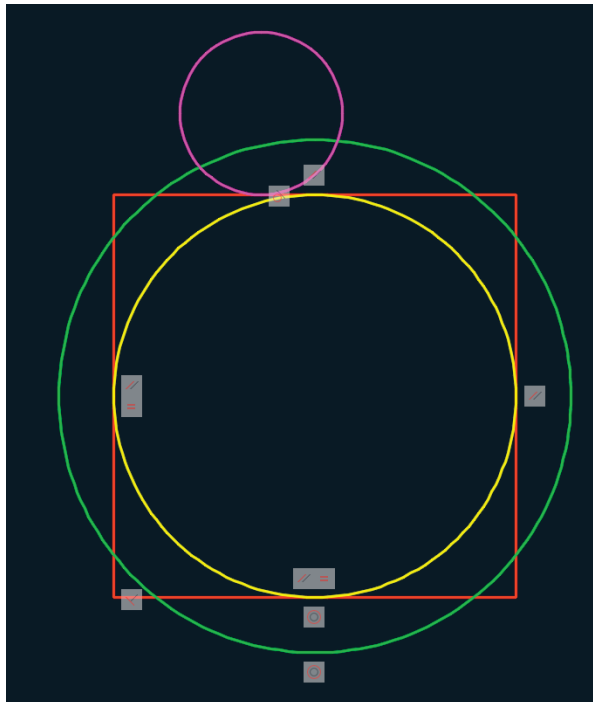

FIGURE 12.11 Applying a tangent geometric constraint
8. Select the ribbon's Parametric tab, and click the Tangent constraint tool in the Geometric panel. Select the top line of the square as the first object and the magenta circle as the second object. The circle moves down to conform to the tangent constraint (see Figure 12.11).